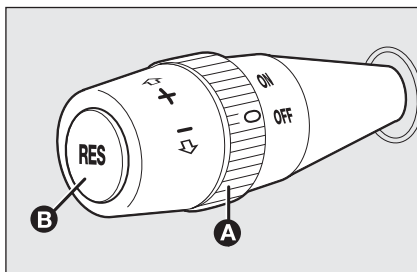

fig. 73
Turn the ring **A-fig. 73** to **ON**.
- ☐ turn ring **A-fig. 73** to **ON** and press the accelerator pedal to the required speed;
Turn ring **A-fig. 73** to **OFF** or the ignition key to **STOP**. The device is automatically turned off in one of the following cases: